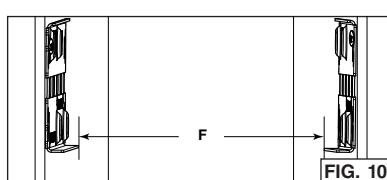

FIG. 10
7. Measure the distance between both bottom bracket edges (F) (FIG. 10). The table below shows the appropriate distance needed.